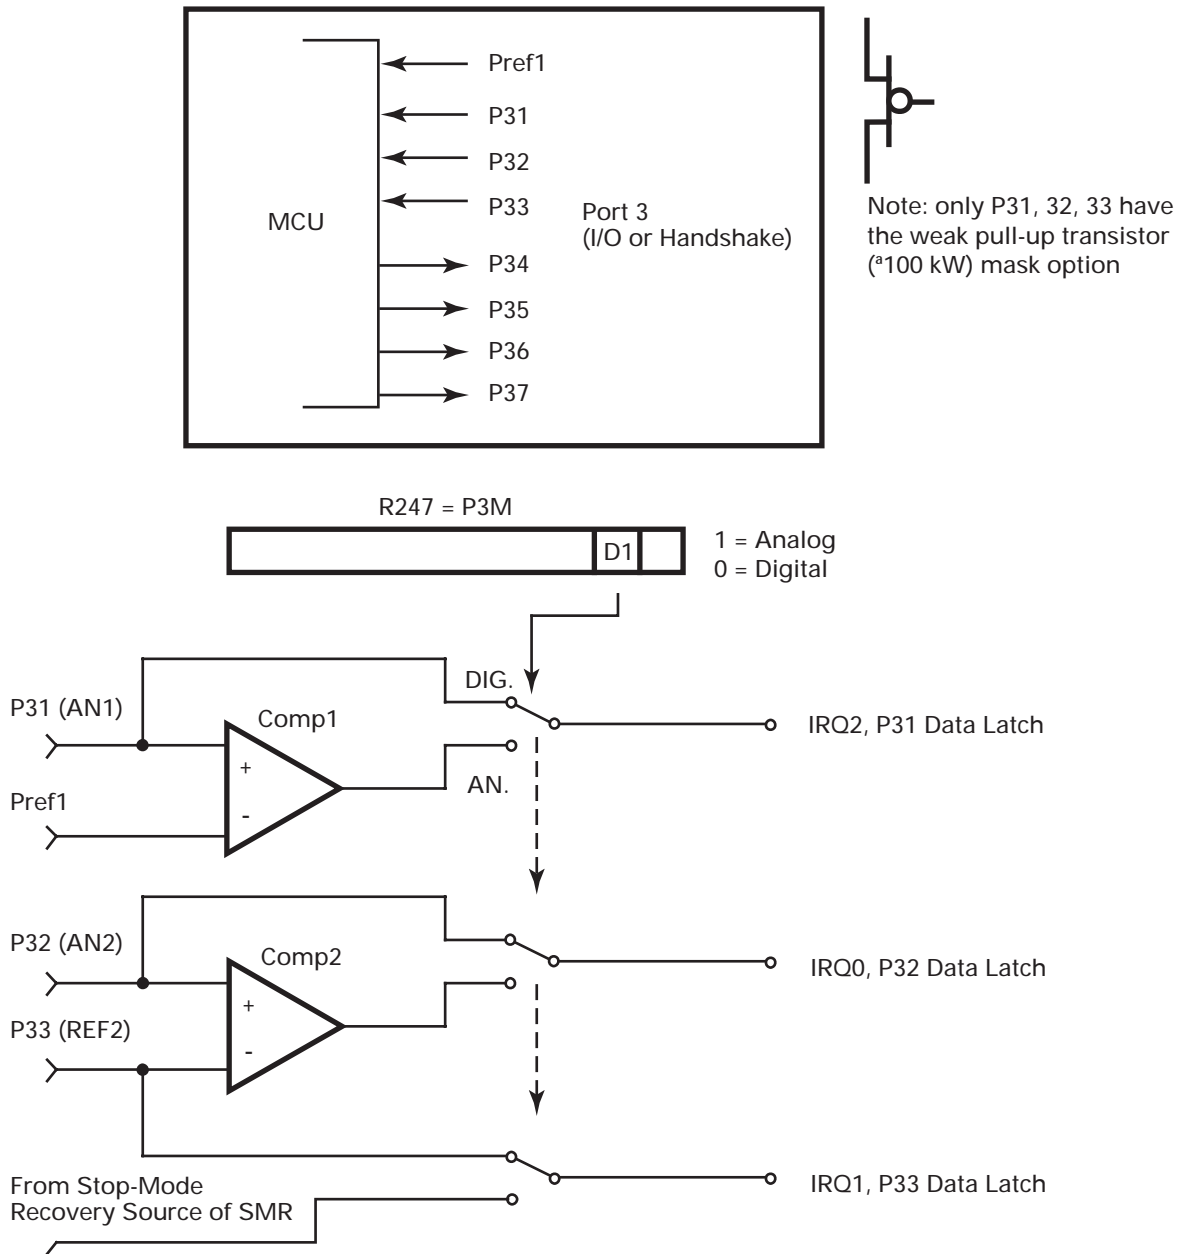
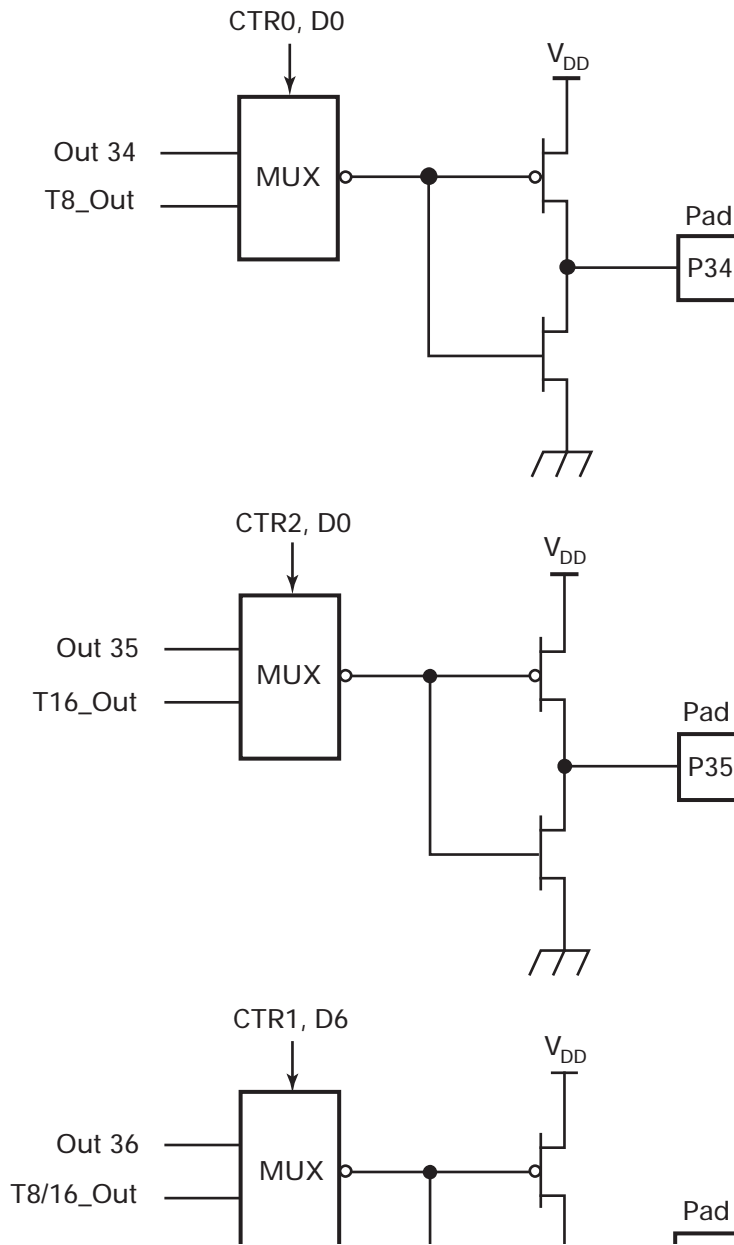

Figure 5. Port 3 Configuration
Figure 6. Port 3 Configuration
**Comparator Inputs.** In Analog mode, Port 3 (P31 and P32) features a comparator front end (Figure 4). The comparator reference is supplied to P33 and Pref1. In this mode, the P33 internal data latch and its corresponding IRQ1 is diverted to the SMR Sources (excluding P31, P32, and P33) as displayed in Figure 5. In digital mode, P33 is used as D3 of the Port 3 input register, thereby generating IRQ1 as illustrated in Figure 6.